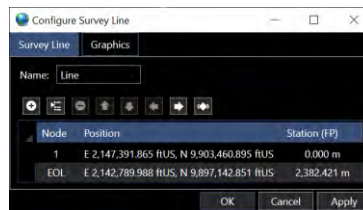

FIGURE 8-48 MAP VIEW CONFIGURE SURVEY LINE DIALOG
3. The respective configuration dialog will appear, for example, if Create Survey Line is selected the Configure Survey Line dialog as shown in Figure 8-48 will appear